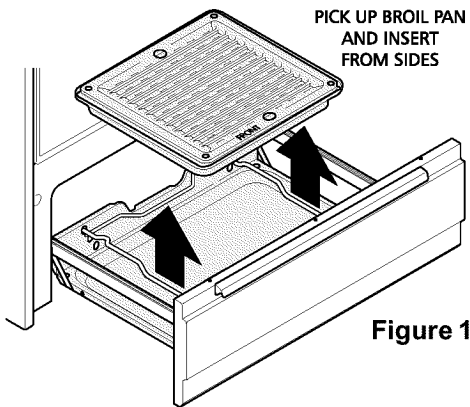

Figure 1
2. Remove broiler pan and insert (See Figure 1).
6. Place broiler pan on rack; make sure the broiler pan with the insert is positioned as shown (See Figure 1). Be sure front of pan is positioned correctly in rack.